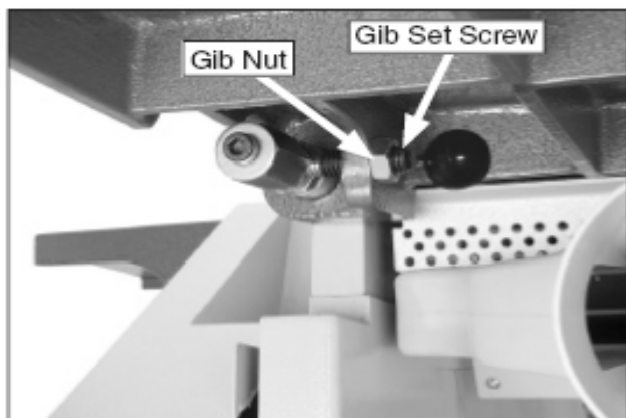

Figure 53. Outfeed table gib control.
3. Repeat Steps 1–2 with the outfeed table gib control (Figure 53).